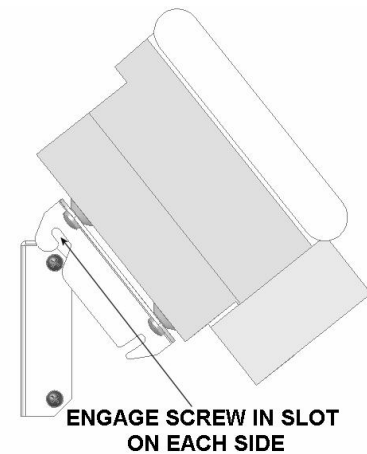

Figure 19. Engage Top of Speaker Bracket to Wall Bracket
3. Tip the top of the speaker gently towards the wall bracket to engage the slots onto the top screws (see Figure 19).